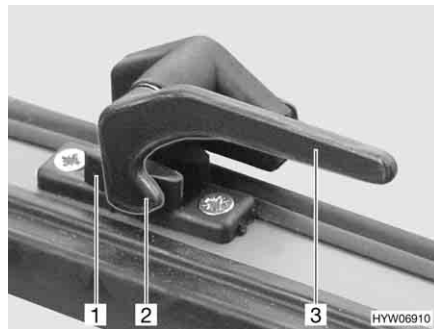

Fig. 64 Catch lever in "closed" position
- Turn the catch lever (Fig. 64,3) a quarter turn towards the centre of the window.
- Turn the catch lever (Fig. 64,3) a quarter turn towards the window frame. The locking catch (Fig. 64,2) is located on the inside of the window catch (Fig. 64,1).
- Firmly closed (Fig. 64)